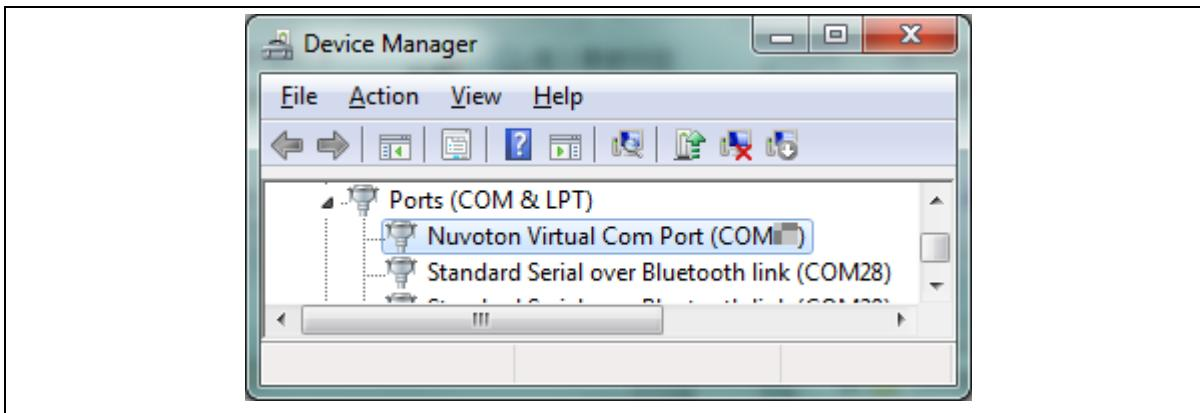

Figure 5-7 Device Manger
2. Find the “Nuvoton Virtual COM Port” on the Device Manger as Figure 5-7.